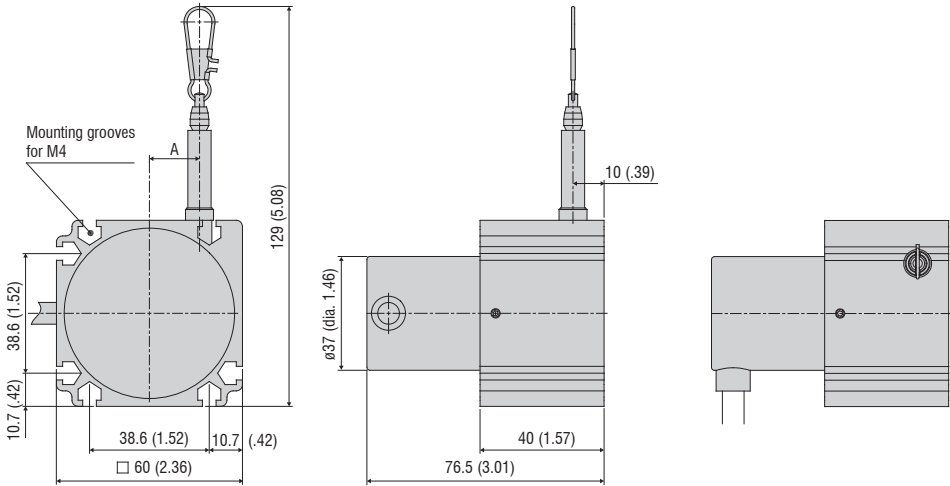

Fig. 2 Dimensional drawing WDS- ... - P60 - CR - P, dimensions in mm (inches, rounded off)
- Mount the sensor through mounting grooves for nut M4 DIN 934 or bolt M4 DIN 931, see Fig. 2 et seq.